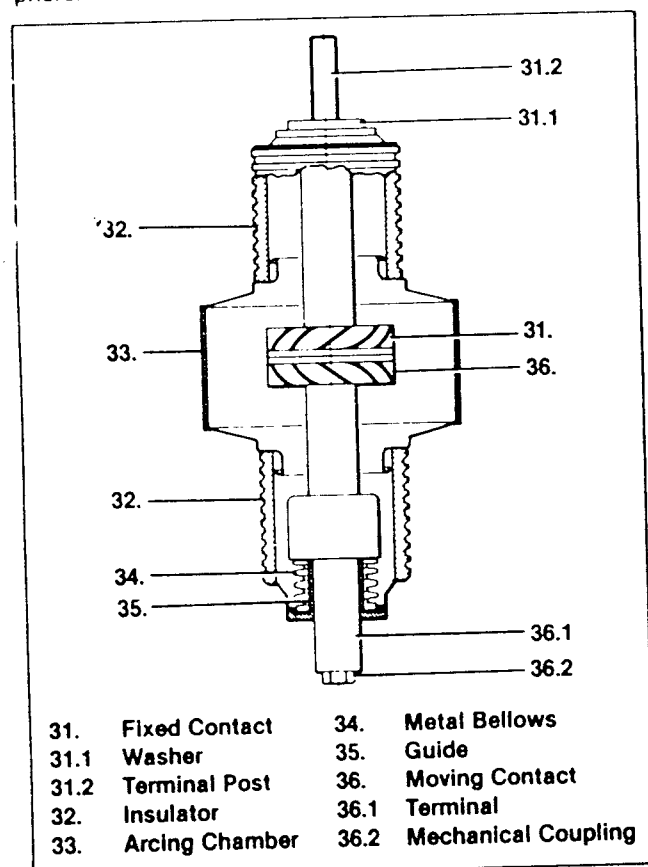

Figure 2. Section through a Vacuum Interrupter
The basic construction of the interrupter can be seen from Figure 2. The moving contact 36 moves in guide 35. The metal bellows 34 follows the travel of the moving contact and seals the interrupter against the surrounding atmosphere.
The current flows from the upper terminal 27 through the fixed contact terminal washer (Figure 2 items 31.1) the fixed contact (Figure 2 item 31) the movable contact (Figure 2 item 36) the movable contact terminal post (Figure 2 item 36.1), which is connected with the lower terminal 29 by terminal clamp 29.2, and flexible strap 29.1.
The vacuum interrupter is opened and closed by the movable contact (Figure 2 item 36) moving in guide (Figure 2 item 35). The metal bellows (Figure 2 item 34) follows the travel of the moving contact and seals the interrupter against the surrounding atmosphere.